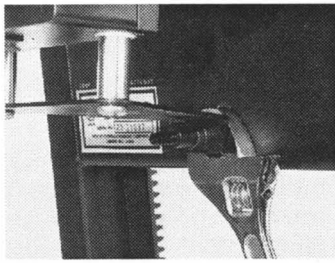

Figure 9
1. Loosen the lock nut and turn the vertical adjustment screw (see Fig. 9) until a level condition is achieved.